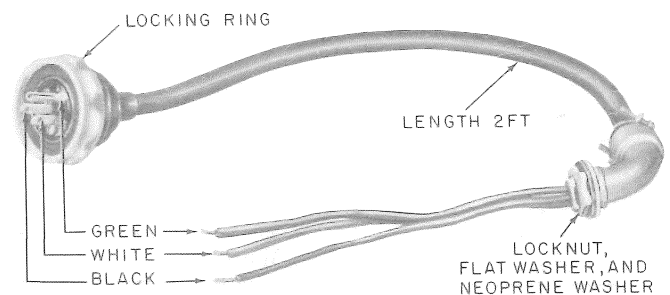

Fig. 4—KS-19580, List 30 Power Cord Assembly
- (a) **KS-19580, List 30 power cord assembly (Fig. 4):** Used for overhead power.